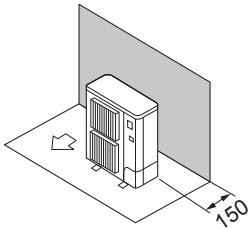

Fig. 5-3
- ① Obstacles at rear only (Fig. 5-3)